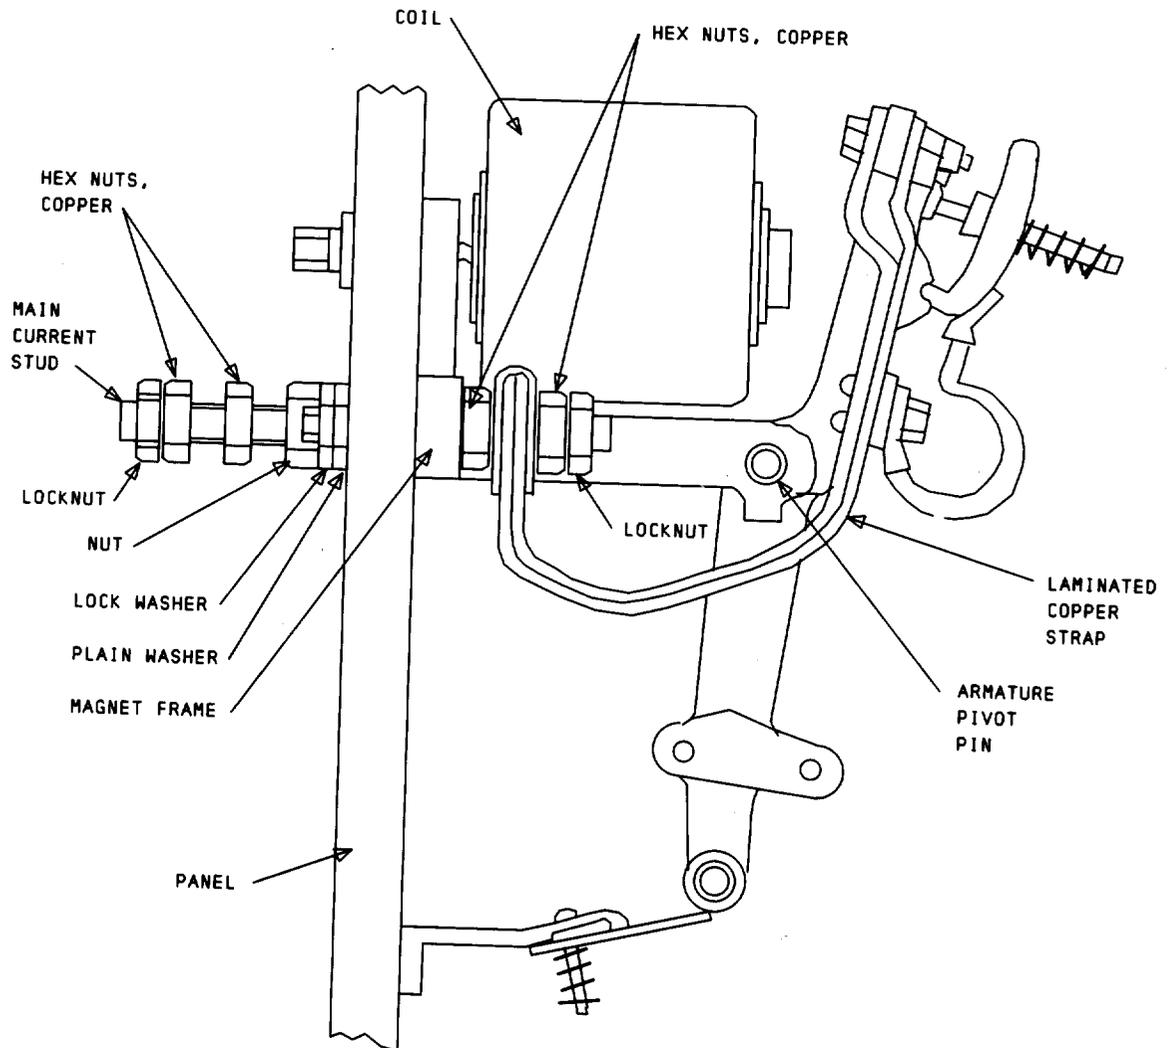

Fig. 5—Typical Nut and Stud Assembly for Main Current-Carrying Connection
(1) To check the temperature, hold the thermometer bulb against the brush, covering that part of the bulb not in contact with the brush with a small felt pad. If the temperature is high enough to cause the felt to smoke or char, asbestos on the face of the pad is suggested. If the temperature is too high, apply the following procedures.
(2) Check the condition of contact surfaces and contact pressures. (See 2.02 and 2.03.)
(3) Check the maximum load the contact is forced to carry. If it exceeds the ampere nameplate rating, the brush may lose temper and fail to give satisfactory operation. If overload cannot be avoided, refer to supervisor.
(4) Check the temperature of stud to bus-bar joint on rear of panel. If it is higher than the brush temperature, refer to the supervisor who may want to consider remaking external connections to the contactor. Also check the temperature of all bolted current-carrying connections on the front of the contactor panel. If temperatures are high, refer to (5) below.
(5) If heating of any of the associated parts of the contactor is experienced, the following procedure is recommended. First, measure the voltage drop across the made contacts of the laminated brush and the contact plate, measuring between the contact support structures. This should not exceed 0.0015 volt. Second, measure the drop across all current-carrying junctions of the contactor. A reading of over 0.0015 volt indicates a poor or loose connection; and the part should be disassembled, sanded lightly if necessary, cleaned with trichloroethane, dried thoroughly, and reassembled. When reassembling use two copper nuts and one locknut, as shown in Fig. 5. Tighten nuts with appropriate wrench. Recheck voltage drop across the connection.